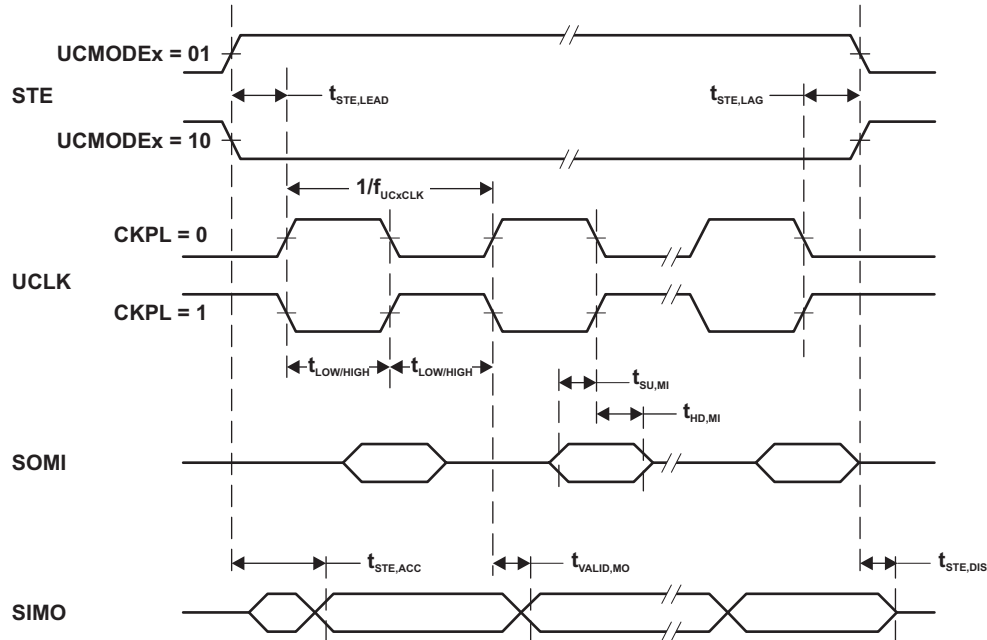
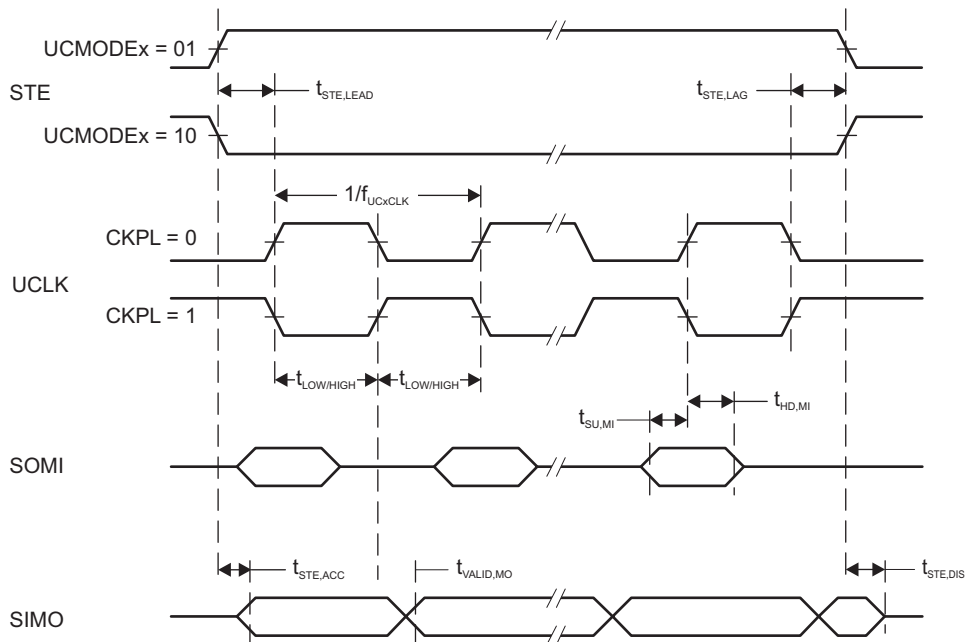

Figure 5-13. BadDriveBacuSPI Master Mode, CKPH = 0
Figure 5-14. SPI Master Mode, CKPH = 1
- (2) Specifies the time to drive the next valid data to the SIMO output after the output changing UCLK clock edge. See the timing diagrams in Figure 5-13 and Figure 5-14.
- (3) Specifies how long data on the SIMO output is valid after the output changing UCLK clock edge. Negative values indicate that the data on the SIMO output can become invalid before the output changing clock edge observed on UCLK. See the timing diagrams in Figure 5-13 and Figure 5-14.
- (2) Specifies the time to drive the next valid data to the SOMI output after the output changing UCLK clock edge. Refer to the timing diagrams in Figure 5-13 and Figure 5-14.